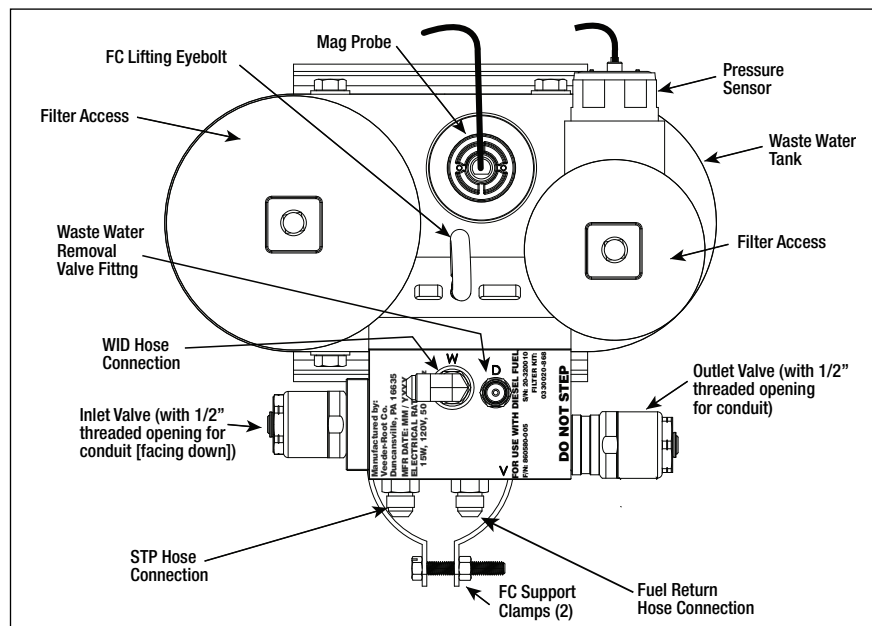

Figure 3. FC Assembly Components
The Fuel Conditioner (FC) Assembly connects to the STP and to the Water Intake Device (WID) at the top of the WID Riser. The WID returns processed fuel to the tank through a port in the Guide Tube flange. Components of the FC are shown in Figure 3.